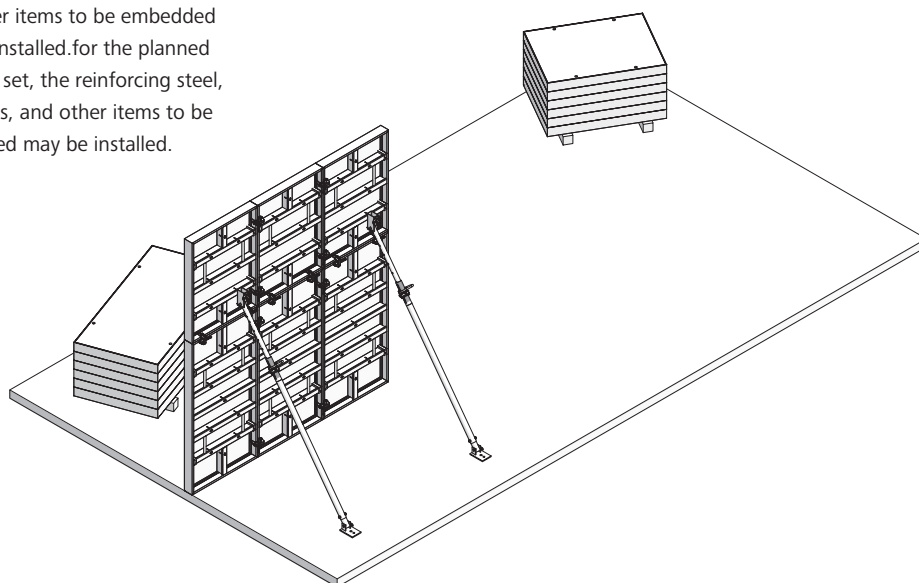

Fig. 51.1
1. Erect the first panel and immediately attach a brace, anchor the foot plate, and install and anchor a shoe plate (Fig. 51.1).